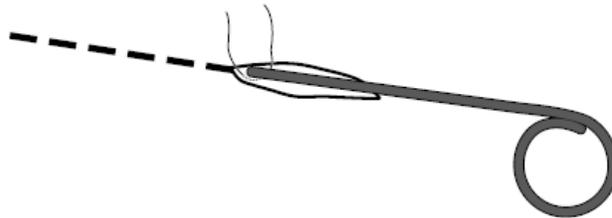

Figure 1. Suture placed around the tunneling rod in the subcutaneous tissue
- With the tunneling tool in place and prior to pulling the percutaneous extension to the pocket site, place a resorbable suture in the tissue around the tunneling rod near the entry site from the pocket (Figure 1).